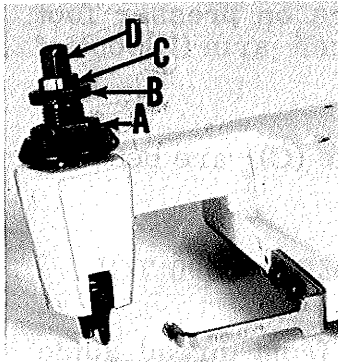

Fig. 2
Sufficient presser foot pressure to feed work uniformly should be maintained. Should it be necessary to increase or decrease amount of pressure on presser foot, loosen lock nut (A, Fig. 2) and turn adjusting screw (B). Adjusting screw has a right hand thread, so tightening increases pressure, loosening decreases pressure. When pressure adjusting screw (B) has been properly set, tighten locking nut (A). With presser foot resting on throat plate, position locking nut (C) so that its under surface is approximately 1/32 to 1/16 inch (.79 to 1.59 mm) from the top surface of adjusting screw (B). Set cap (D) against locking nut (C).